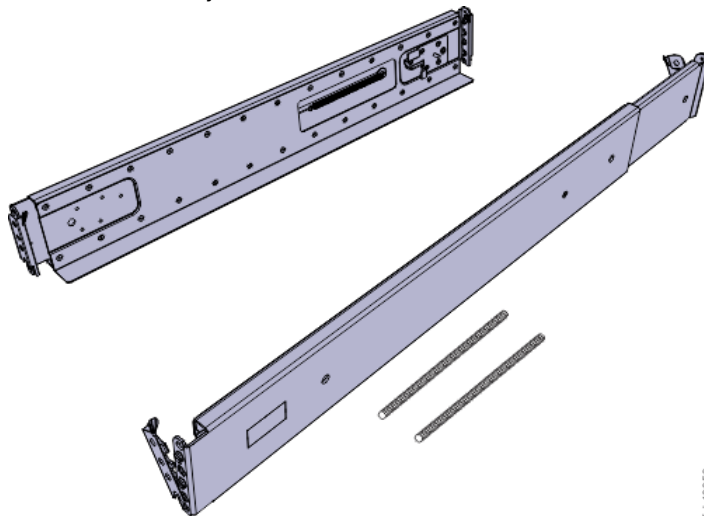

Figure 109. Expansion enclosure support rails
1. Locate the expansion enclosure rails (Figure 109 on page 176).